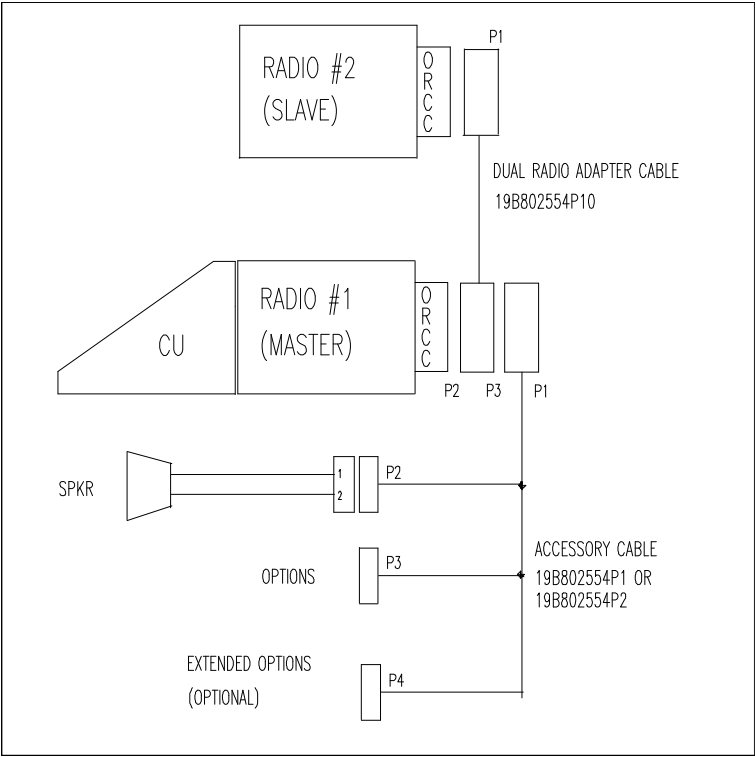

Figure 36 - Orion Dual Radio Front Mount Installation Configuration
1. Plan the mounting locations of the two Radio Units. Note that the maximum cable length allowed between the two radios is two meters. Referring to Figure 36, run Dual Radio Cable (19B802554P10) between locations for Master and Slave Radio Units. Be sure to locate the P2/P3 connector assembly at the Master Radio Unit.